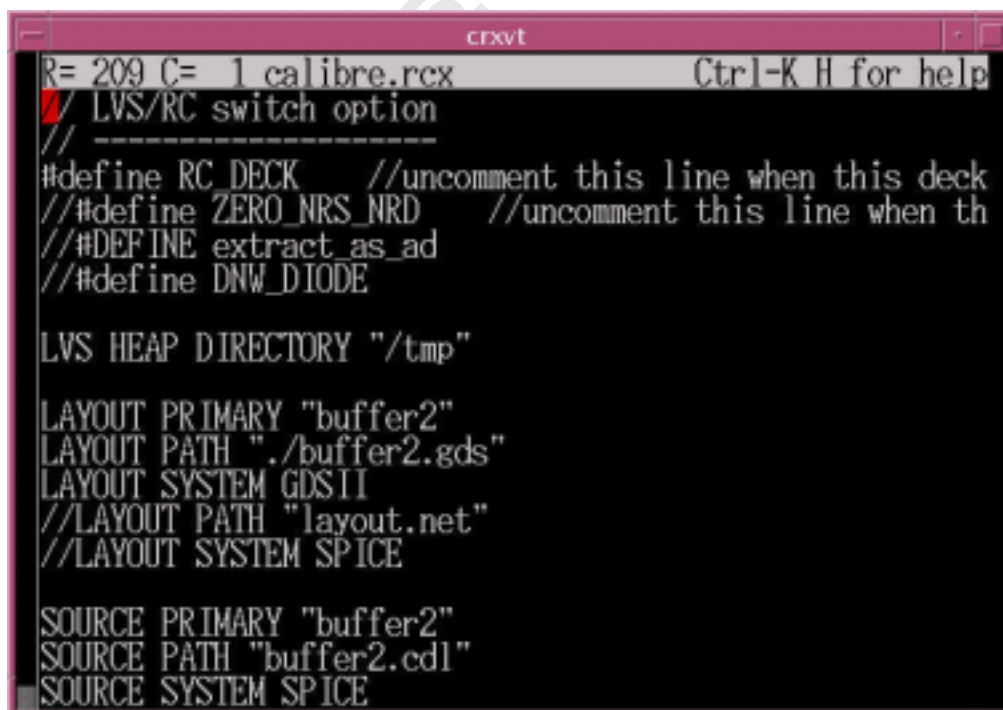

FIG. 34 Edit Calibre RCX deck
1. Edit the Calibre RC deck and specify the GDS file name, top cell name and CDL netlist file for the deck (Fig 34).